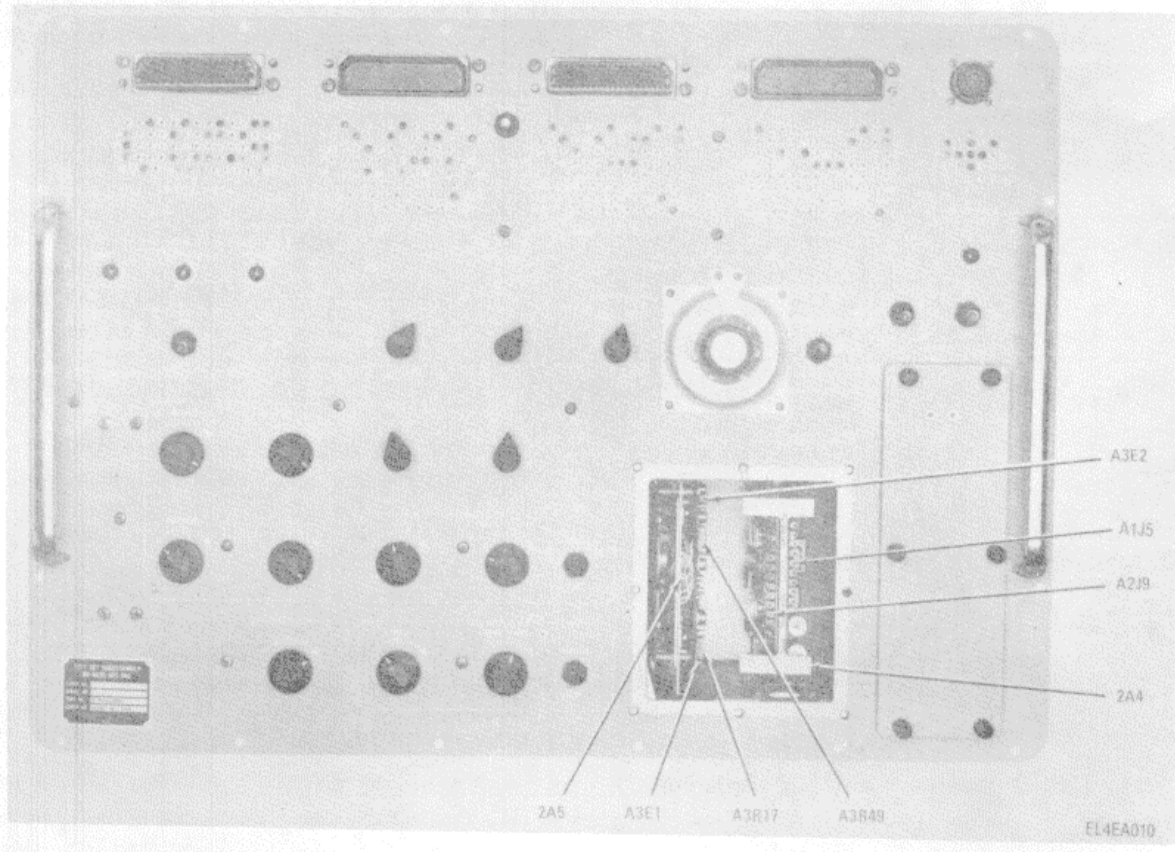
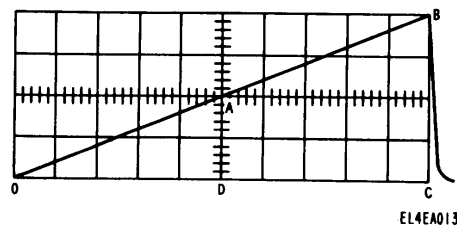

Figure 6. Test Set Subassembly MX-8639A/APS-94D, servo amplifier 2A4 and sweep generator 2A5.
Figure 7. Typical servo amplifier gain waveform.
- (3) Connect the oscilloscope probe to terminal A3E1 (fig. 6).
- (4) Energize the 115 vac, 400 Hz and +28 vdc bench power circuits.
- (5) Close all circuit breakers on the upper MX-8638A/APS-94D and set the POWER switch of the MX-8639A/APS-94D to ON.
(6) Adjust the controls of the MX-8639A/ APS-94D.
(7) Turn the NAV SIM dial of the upper MX-8638A/APS-94D to the position indicated by the GS/DFT dial on the MX-8639A/APS-94D.
(8) Set oscilloscope sweep speed to 50 ms/cm.
(9) Obtain a signal display on the oscilloscope and adjust the NAV SIM dial on the upper MX-8638A/-APS-94D for a sawtooth waveform with a positive ramp duration of 500 ms minimum, as shown in figure 7. Adjust the oscilloscope horizontal and vertical gain to place points O and B of the waveform ramp at oscilloscope graticule corners as shown in the illustration.
(10) Compare the waveform displayed on the oscilloscope with that shown in figure 7. The two waveforms should agree.
(1) Adjust the NAV SIM dial of the MX-8638A/-APS-94D and the oscilloscope vertical gain to meet the requirements in a(9) above.
(2) Adjust resistor A3R17 of video amplifier 2A5 (fig. 6) to meet the requirements specified in the note in a(10) above.
(1) Perform all instructions in paragraph 7.
(2) Perform all instructions in paragraph 9a, except (4) and (6)(c). Connect the oscilloscope probe to terminal A3E2 (fig. 6) and turn the SERVO LOOP switch to DFT.
b. Adjustment. Perform all instructions in paragraph 9b, except (2). Adjust resistor A3R49 (fig. 6) to meet the requirements specified in the note in paragraph 9a(10).
(3) Connect the oscilloscope probe to test point A1JS of 2A4 (fig. 6).
(4) Energize the 115 vac, 400 Hz and +28 vdc bench power circuits.
(5) Close all circuit breakers on the upper MX-8638A/APS-94D and set the POWER switch of the MX-8639A/APS-94D to ON.
(6) Turn the ANTENNA switch of the MX-8639A/APS-94D to RIGHT and the DRIFT ANGLE switch to 0.
(7) Adjust the oscilloscope for display and observe the waveform. The waveform should be a negative-going sawtooth with a peak level of -10 volts.
(2) Energize the 115 vac, 400 Hz and +28 vdc bench power circuits.
(3) Close all circuit breakers on the upper MX-8638A/APS-94D and set the POWER switch of the MX-8639A/APS-94D to ON.
(4) Connect the digital voltmeter to test point A2J9 (fig. 6) of servo amplifier 2A4 of the MX-8639A/APS-94D.
(5) Observe the voltage level indicated on the voltmeter. The voltage level should be $+9.0 \pm 0.1$ vdc.